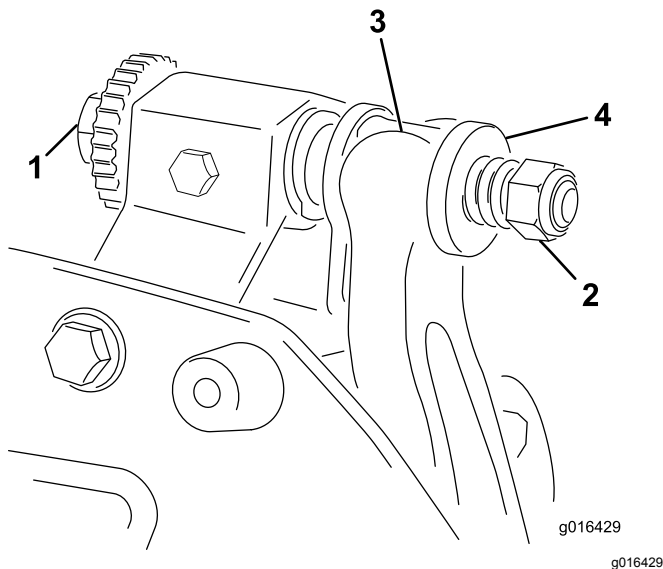

Figure 21
1. Turn the bedbar adjusting screw, counterclockwise, to back the bedknife away from the reel (Figure 21).
2. Back out the spring-tension nut until the washer is no longer tensioned against the bedbar (Figure 21).
1. Install the bedbar, positioning the mounting ears between the washers and the bedbar-adjusting screw (Figure 21).